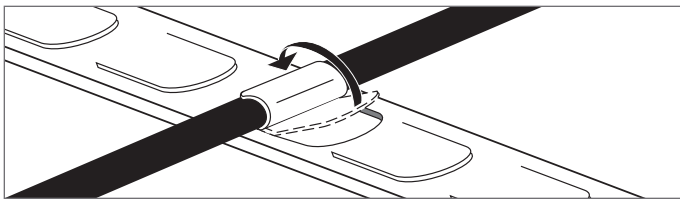

FIGURE 2.31a: Pre-Punched Stainless Steel Strapping
4. Unreel a cold lead. Secure the hot/cold joint to asphalt base layer by bending back the pre-punched strapping tabs. Space the hot/cold joint at least 6" (150mm) in from the edge of the slab. See Figure 2.31a.
5. Unreel heating cable in a serpentine pattern over asphalt base layer, spacing the runs as per installation plan. Using pre-punched strapping, secure heating cable to asphalt base layer. See Figure 2.31a.